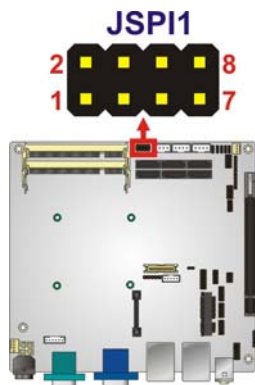

Figure 3-20: SPI Flash Connector
- CN Location:** See **Figure 3-20**